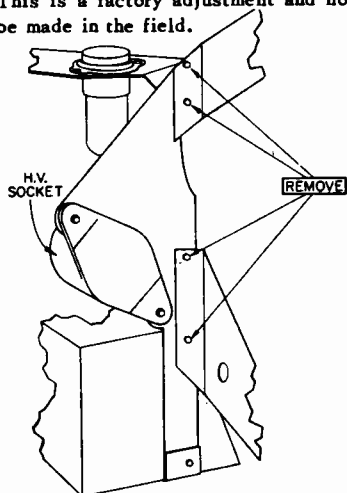

Figure 1 - Bracket Screw Removal for PC Board Accessibility
1. Remove the 4 screws shown in Figure 1.